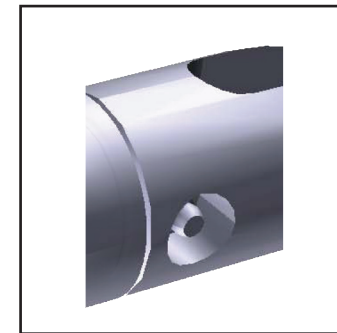

Figure 1 - 400 D.Drill Grease Zerk
1. Locate and clean the grease-zerk fitting (Figure 1).